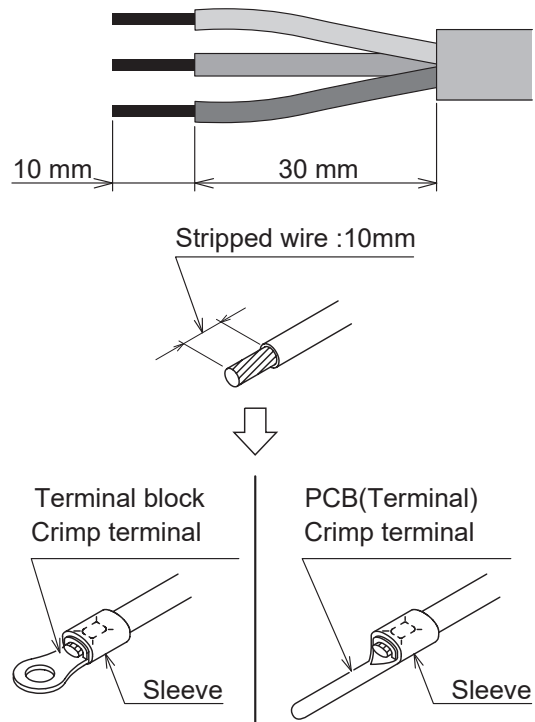

Figure 6-6: Circular wiring connection
8. Strip the ends of connecting cables in accordance with Figure 6-6.
9. Crimp terminals with insulating sleeves can be used if required as illustrated in Figure 6-6 for connecting the wires to the terminal block. Stranded conductors shall not be soldered.